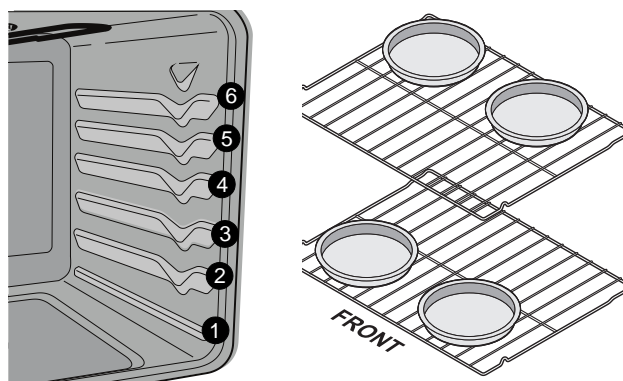

Figure 10: Rack positions; Pan positions two rack baking
- For best results when baking cakes and cookies using two oven racks, place racks in positions 3 and 5 (See Figure 10).
- When baking cakes using two oven racks, position cookware as shown in Figure 10. Allow at least 2 inches (5 cm) of space between cookware for proper air circulation.